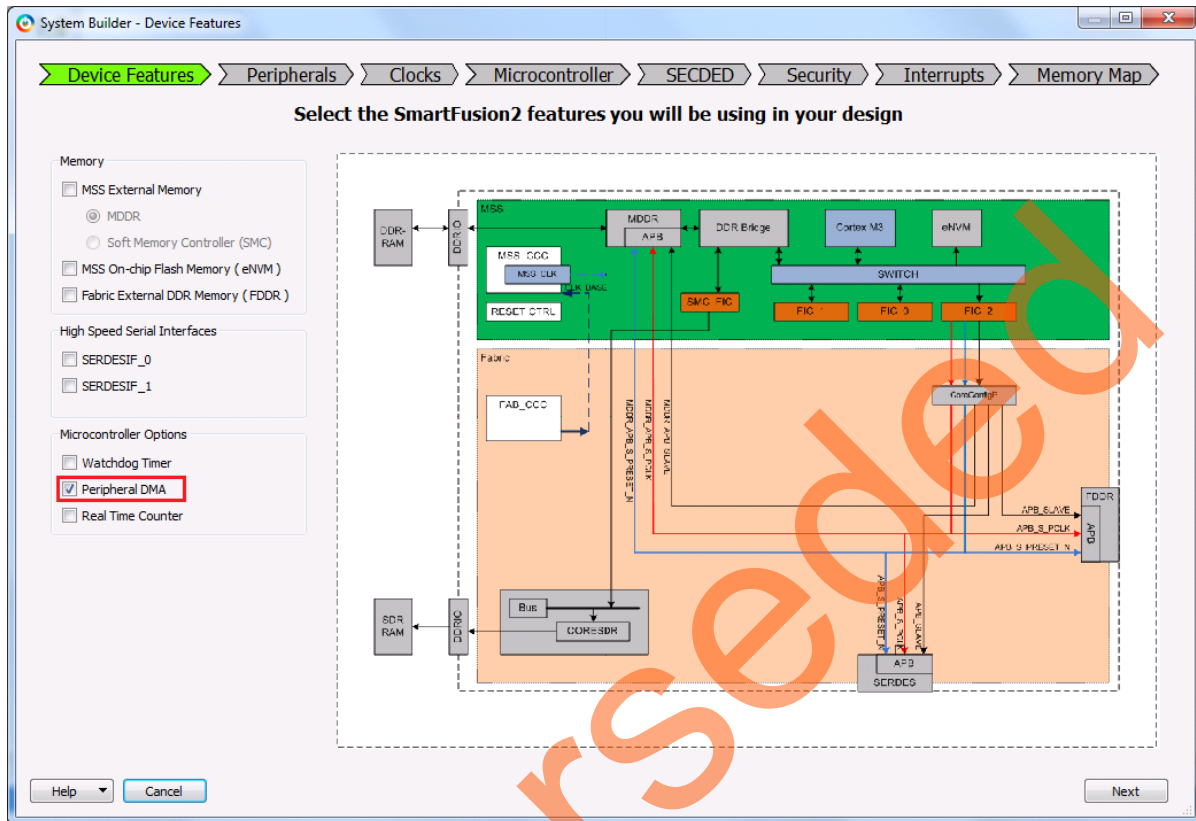

Figure 6 • System Builder – Device Features Page
- In the **System Builder – Device Features** page, select the **Peripheral DMA** check box under **Microcontroller Options** as shown in Figure 6.